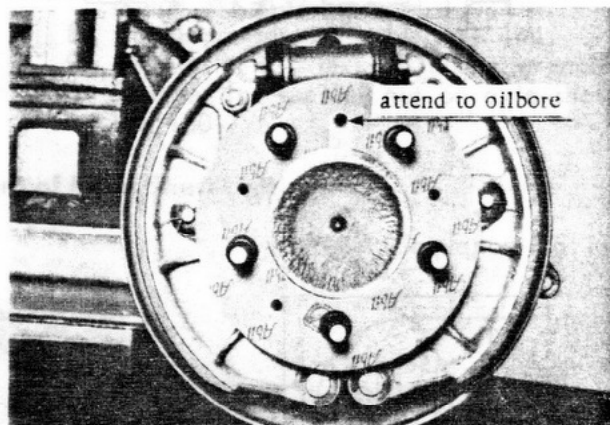

Fig. 42
6. Stick gasket 055 082 17 00 to flange of half-shaft ensuring that the oil hole is correctly positioned (Fig. 42). Fit brake drum on half-shaft flange.